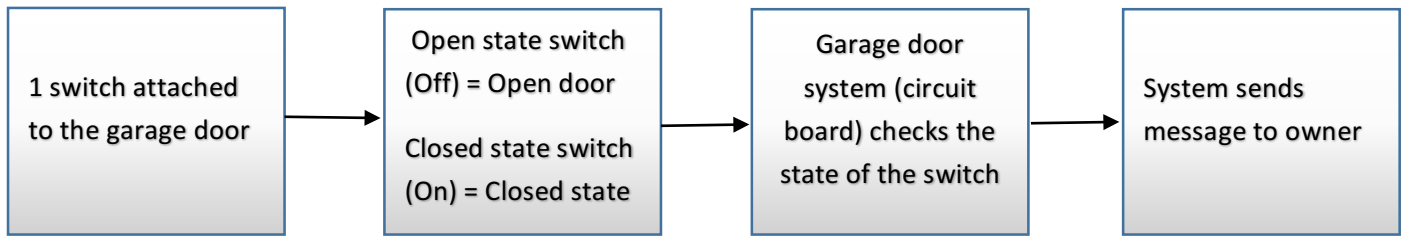

Figure 6
- b) The block diagram in figure 6 shows how the systems is able to detect if the garage door is opened or closed to notify its owner.
In this space insert a photo of the circuit shown in figure 6 i.e. by adding two switches, SW2 and SW 3.